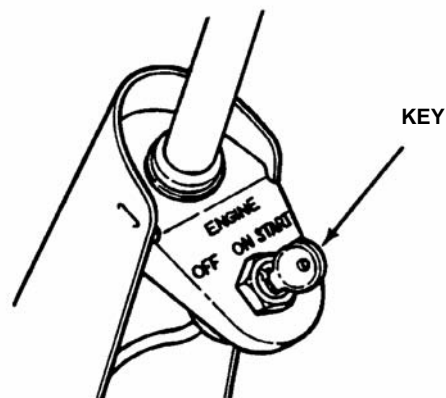

FIGURE 2.7
6. Turn key to the "START" position until engine starts. See Figure 2.7. **NOTE:** If after 5 seconds of cranking the engine and it does not start, release the key, make sure the Clutch/Brake Pedal is fully depressed and attempt starting again after waiting for approximately 20 seconds.